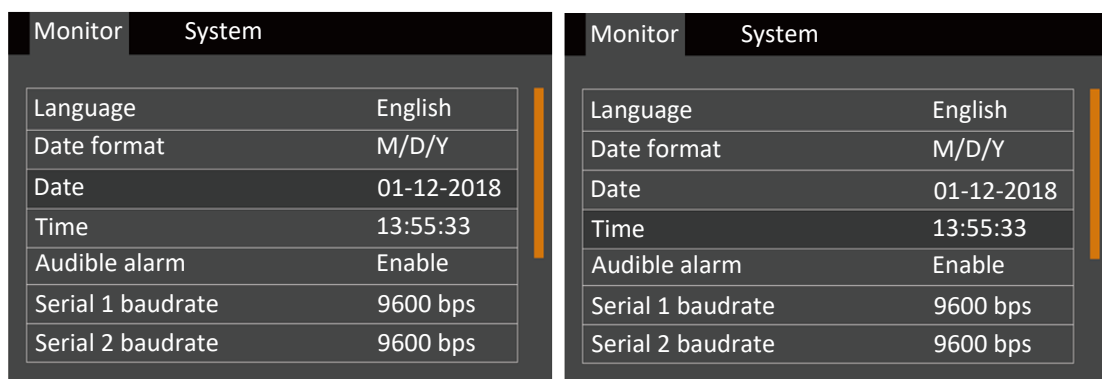

Figure 5-18 Selection of Date and Time
3. Press the key and press the or key to highlight the date and time, see Figure 5-18.